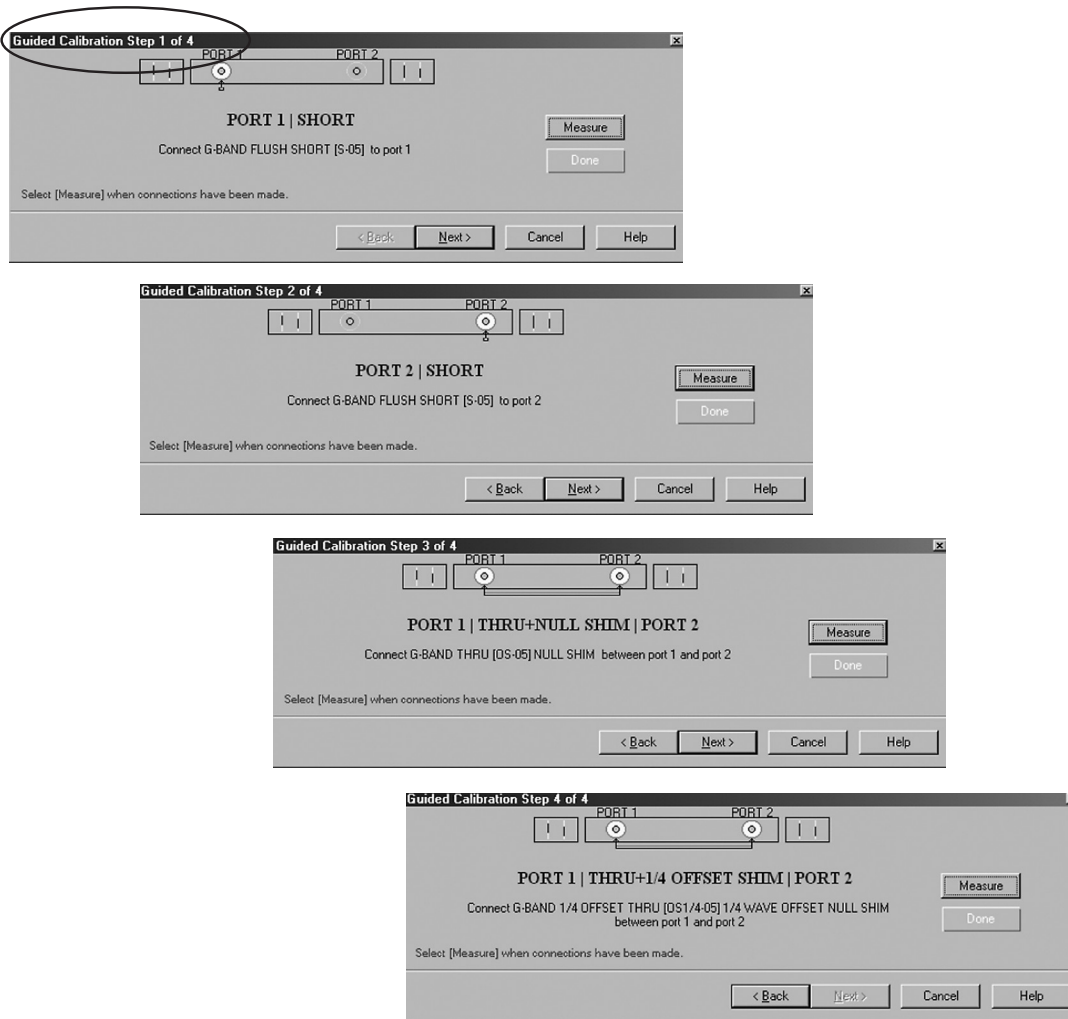

Figure 38. Steps of the 2-port, Flush Thru, TRL calibration (using an OML cal kit).
6. The calibration has now begun. As shown on the upper-left corner of each screenshot (Figure 38), the 2-port, Flush Thru, TRL calibration includes four steps. The example shown here is based on using an OML cal kit.